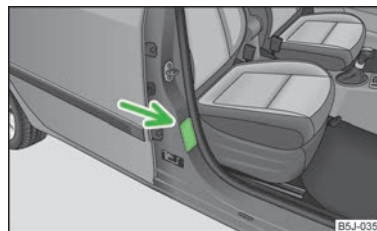

Fig. 107
- This is also clearly stated on the sticker which is located on the B column on the front passenger side » Fig. 107 or on the front passenger's sun visor.